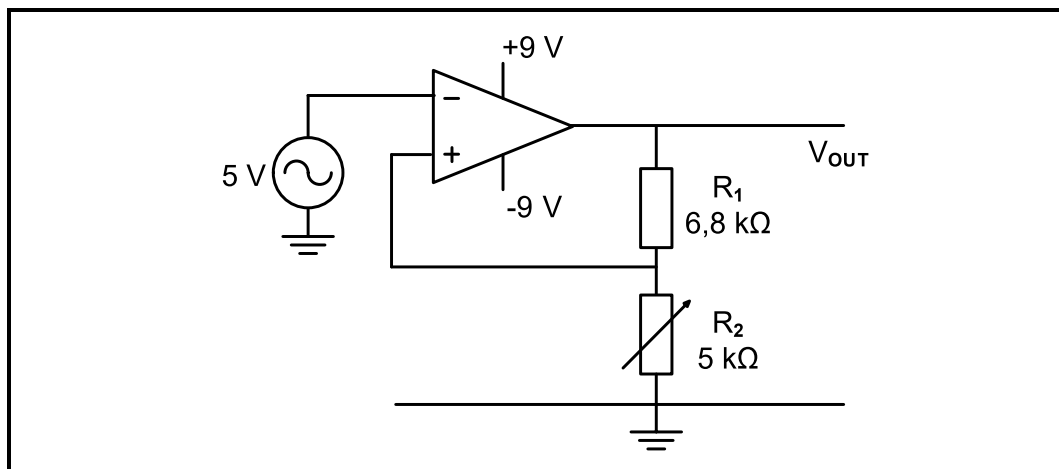

FIGURE 3.5: INVERTING SCHMITT TRIGGER
3.5 FIGURE 3.5 below shows the circuit of an inverting Schmitt trigger.